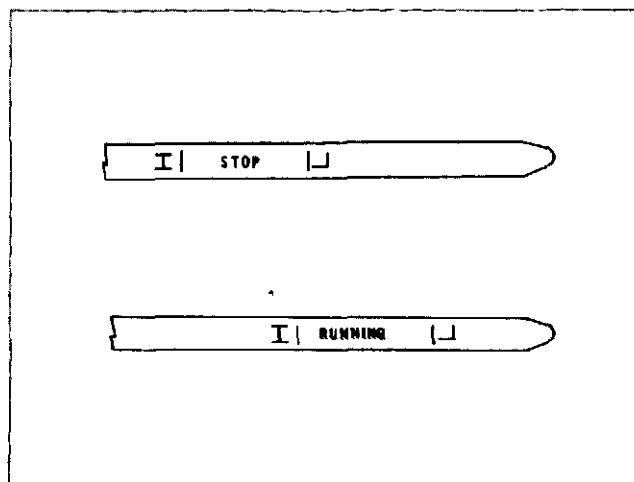

Fig. 7-3-1, V40726. Dipstick markings
f. Insert dipstick all the way into tube. Remove dipstick and mark low oil level indicated. Mark should be 0.010 inch [0.2540 mm] deep. Stamp (electric etch on spring steel) letter "L" immediately above mark (2, Fig. 7-3-1).
i. Insert dipstick and withdraw; now mark oil level indicated. Stamp letter "H" immediately above mark (2).
j. Mark opposite side of dipstick (if desired) for running levels (1, Fig. 7-3-1). Running levels provide equivalent readings to static levels with engine running at low idle (550+25 RPM). Add running level marks with oil supply, low, as stated in Item d, mark as per Item f; for high level, as stated in Items h and i above.